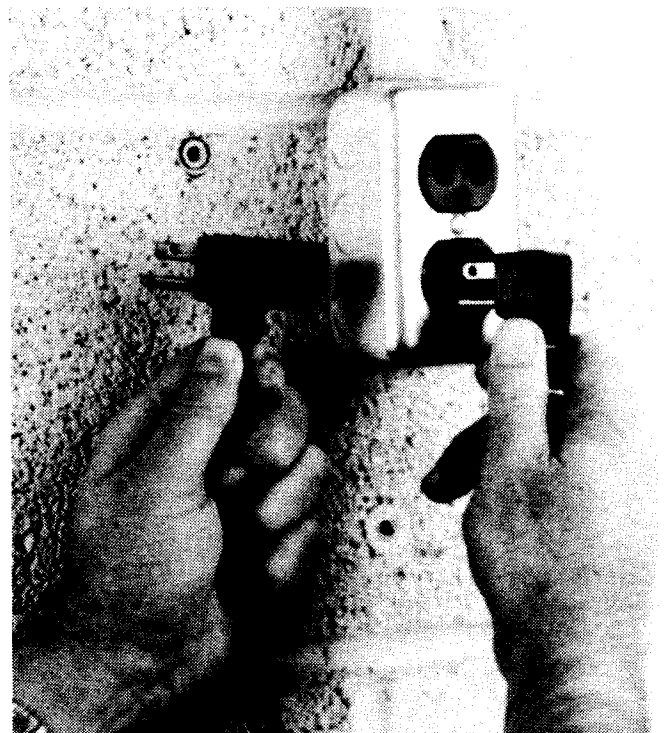

FIG. 7
5. If pump does not start as described, remove switch and pump plugs and plug pump cord directly into receptacle as shown by Fig 7. If pump starts and operates, it will indicate switch is not operating due to hanging up of the